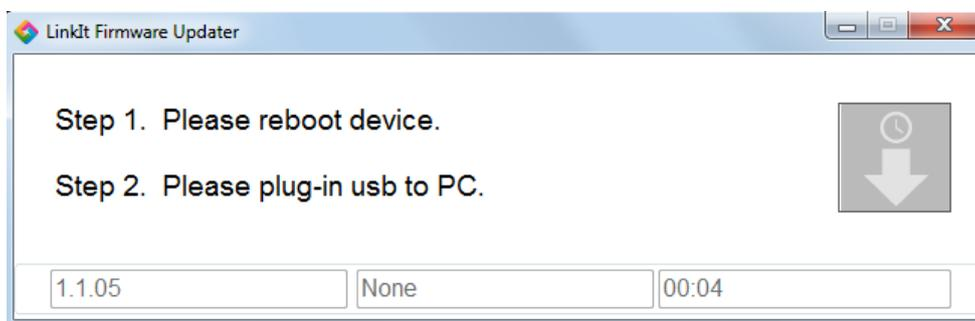

Figure 24 Instructions for upgrading a board's firmware are provided
- 4) Follow the instructions, see Figure 24, and disconnect LinkIt ONE from your computer and its power source. Then reconnect the power source and connect LinkIt ONE to your computer using a USB cable.